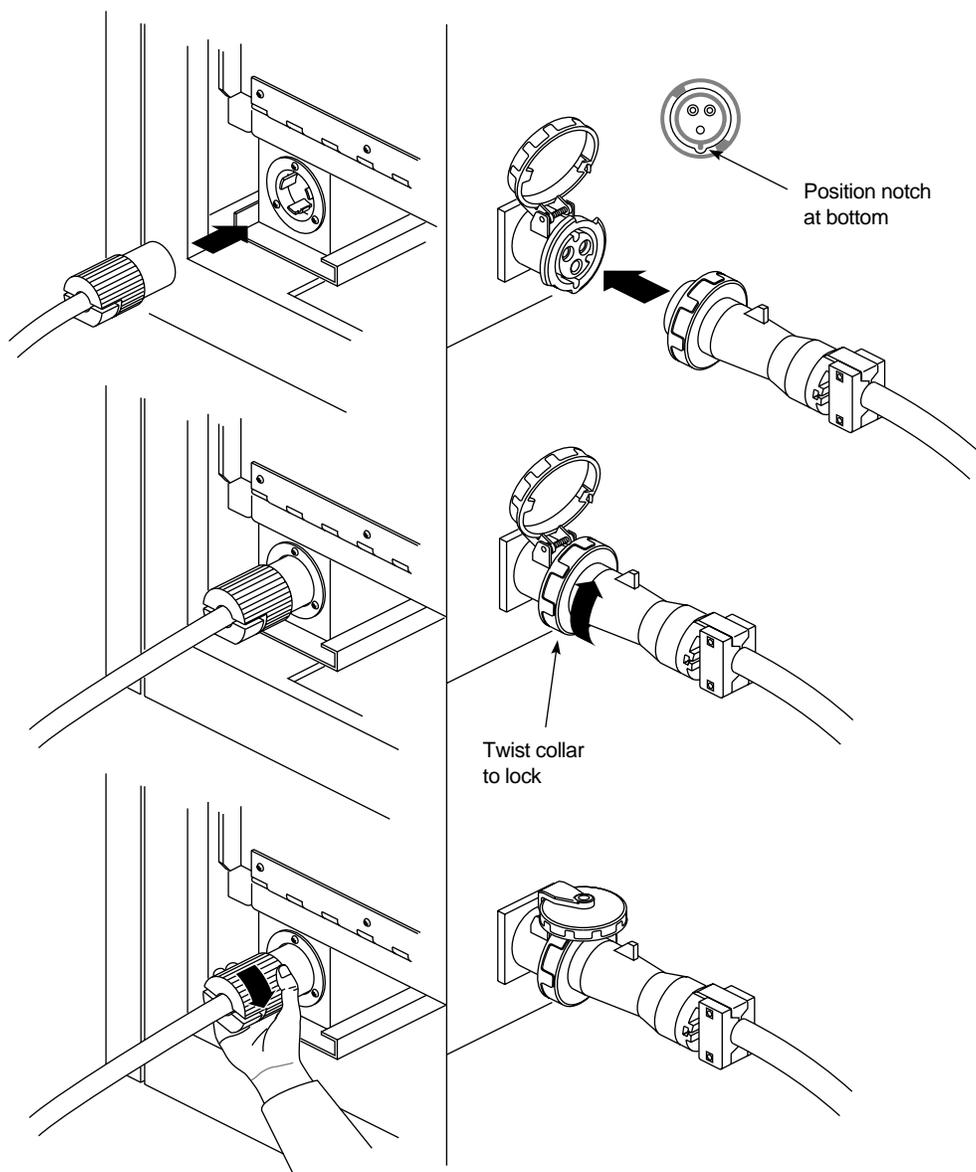

Figure 3-8 Connecting the System Power Cable
2. Insert the female end of the system power cable into the receptacle at the rear of the system chassis (see Figure 3-8). Secure the cable by turning the connector clockwise to engage the twist lock.
3. Connect the male end of the power cable to an AC power source using the appropriate receptacle, either a locking collar or a twist-lock connector (see Figure 3-8). Turn the locking collar on the keyed connector clockwise to engage the locating tabs on the AC outlet. Turn the twist-lock connector clockwise to secure it to the AC outlet.